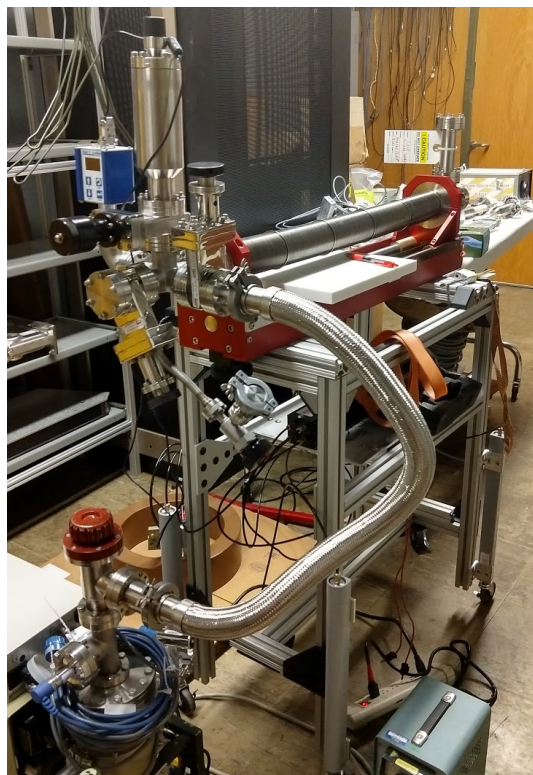

Figure 4 Sample Exposure Probe. The SEP is mounted on an 80-20 stand with caster-mounted, height-adjustable hydraulic jacks.
- 5.15. Insert the probe head by manually turning the bellows drive. This must be done while supporting the bellows to keep the internal probe tube from scraping the inside of the bellows. A solid 1.5 inch thick sheet of UHMW Polyethylene is placed below the bellows for sag support as shown in figure 4.